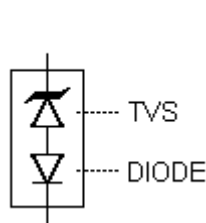
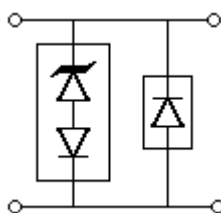

FIGURE 4
FIGURE 5
The HSMBJSAC transient voltage suppressor (TVS) series rated at 500 Watts provides an added rectifier element as shown in Figure 4 to achieve low capacitance in applications for data or signal lines. The low capacitance rating of less than 30 pF may be used for protecting higher frequency applications in inductive switching environments or electrical systems involving secondary lightning effects per IEC61000-4-5 as well as RTCA/DO-160D or ARINC 429 for airborne avionics. If bidirectional protection is needed, two HSMBJSAC devices in anti-parallel configuration are required as shown in Figure 6. With their very fast response time, they also provide ESD and EFT protection per IEC61000-4-2 and IEC61000-4-4 respectively.
* TVS devices are not typically used for dc power dissipation and are instead operated $\leq V_{WM}$ (rated standoff voltage) except for transients that briefly drive the device into avalanche breakdown (V_{BR} to V_C region) of the TVS element. Also see Figures 5 and 6 for further protection details in rated peak pulse power for unidirectional and bidirectional configurations respectively.
The TVS low capacitance device configuration is shown in Figure 4. As a further option for unidirectional applications, an additional low capacitance rectifier diode may be used in parallel in the same polarity direction as the TVS as shown in Figure 5. In applications where random high voltage transients occur, this will prevent reverse transients from damaging the internal low capacitance rectifier diode and also provide a low voltage conducting direction. The added rectifier diode should be of similar low capacitance and also have a higher reverse voltage rating than the TVS clamping voltage V_C . The Microsemi recommended rectifier part number is the "HSMBJLCR60" for the application in Figure 5. If using two (2) low capacitance TVS devices in anti-parallel for bidirectional applications, this added protective feature for both directions (including the reverse of each rectifier diode) is inherently provided in Figure 6. The unidirectional and bidirectional configurations in Figure 5 and 6 will both result in twice the capacitance of Figure 4.